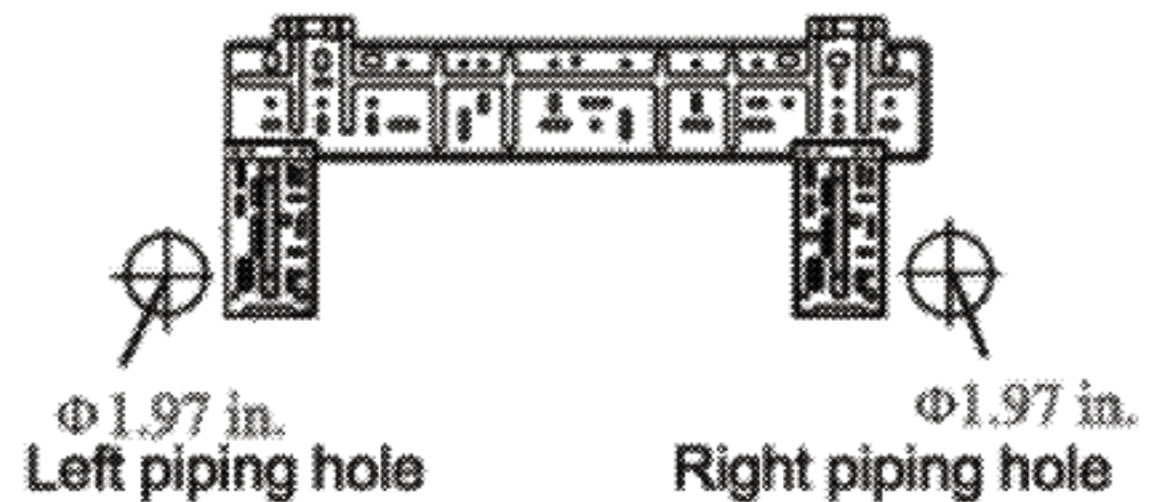

Fig.1
1. Make the piping hole ($\Phi 1.97$ in.) in the wall at a slight downward slant to the outdoor side. (Shown in Fig. 1)